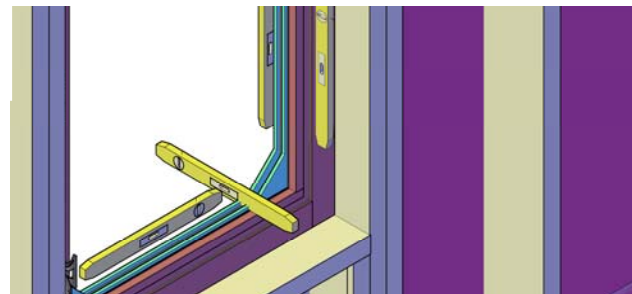

Fig. 2
2) Place the window into the final installation position and plumb / level the unit with shims. Care must be taken to maintain all frame corners square. See Fig. 2